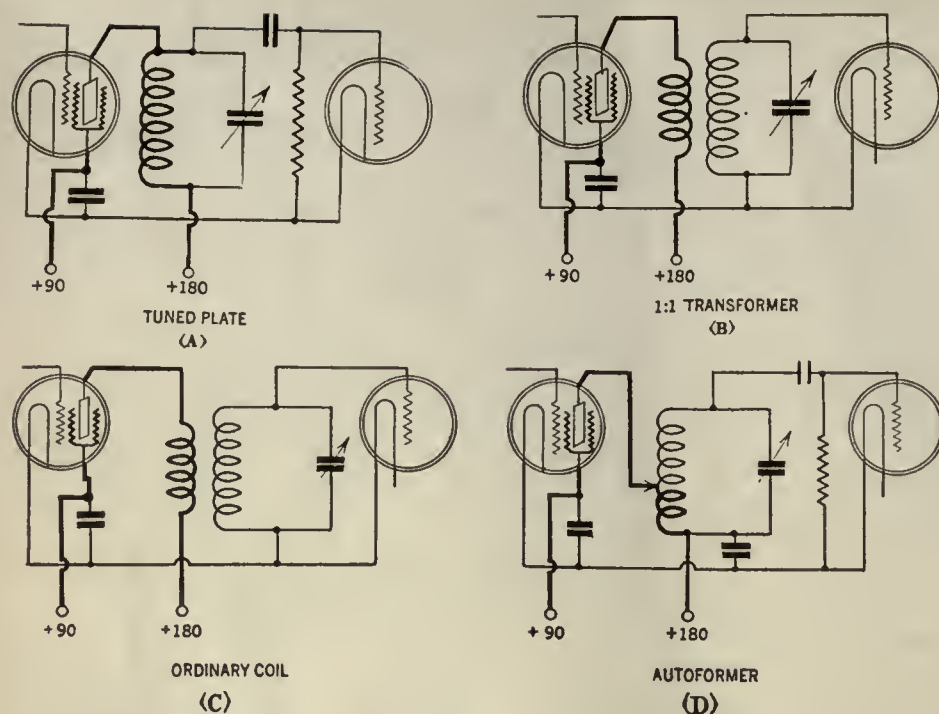
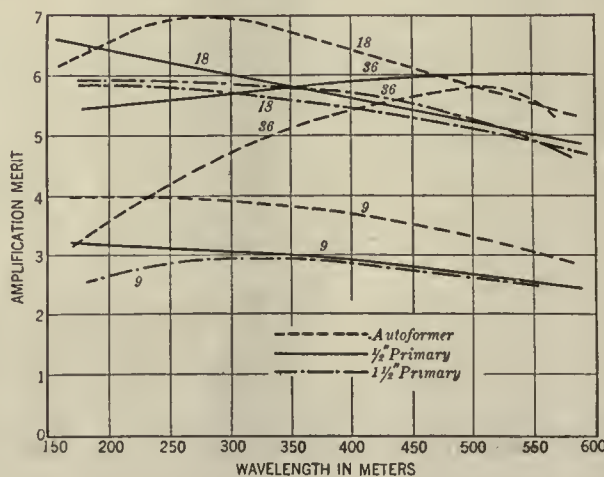

FIG. 2
FIG. 3
1. A tuned impedance, directly from plate and grid to ground. Fig. 2-A.
2. An auto transformer, in which a portion of the secondary is used as primary, the low potential ends being common. Fig. 2-D.
4. A primary wound to take up a length of $1\frac{1}{2}$ " inside the secondary. Fig. 2-B.
6. A primary wound to take up $\frac{1}{2}$ ", placed inside and opposite the low potential end of the secondary. Fig. 2-C.
IN FIG. 3 curves of amplification are shown on three windings in types 2, 4 and 6, and will be discussed at more length later. Type 1, illustrated in Fig. 2-A, generally advocated for use with the screen-grid tube, showed no greater amplification than several other types, and was pronouncedly poor in selectivity. Type 3 gave beautifully flat curves, but the amplification was low, as only a portion of the built up voltage was impressed across the grid and filament of the following tube, and the selectivity was rather poor. Types 7 and 8 appeared desirable from some angles for particular purposes, but in general were not considered as useful as the standard types. Due probably to the large distributed capacity of this type of winding, decided resonance peaks were obtained which varied in their amplitude with the degree of coupling and number of turns used. When a coupling was adjusted to the optimum degree where only three peaks were observed in the broadcast spectrum and a merit figure of $4\frac{1}{2}$ to $5\frac{1}{2}$ was obtained, the selectivity was very poor, and when either coupling or self-inductance was so adjusted as to allow appreciable selectivity, variations in amplification as high as 50 per cent. were unavoidable. It seems therefore evident that this type of winding is not as a rule desirable. Type 10 gave extremely good results, but was impractical for use in receivers because each stage would require three controls, two for tuning and one for coupling, each of which required adjustment for every frequency change.
Types 4 and 6 are very commonly used, and hence we have selected them for detailed presentation in connection with type 2, which was finally adopted as best. Type 4, illustrated in Fig. 2-B and generally advocated for use with the screen-grid tube when the tuned impedance arrangement is not employed, is shown on the chart of Fig. 3 in dot-dash lines, and it will be noted that after the number of turns increases to a certain point, no further increase in amplification is obtained, and hence the 1:1 ratio which has been recommended is not only unnecessary, but undesirable, since the selectivity, poor at all times with this type of construction, is very bad when more than eighteen turns are used.
a considerably improved selectivity factor. It will be noted in Fig. 3 that a variation in the number of turns results in a change of the point where maximum amplification is secured, and hence in a multistage cascade amplifier where selectivity in one or two stages may be sacrificed, comparatively uniform amplification can be secured over the whole band by adjusting the number of turns in the primary of each transformer.
Results obtained from type 2, illustrated in Fig. 2-D, are of extreme interest. In this type of coil a varying portion of the secondary acts as primary, with the primary and secondary currents in this portion of the coil in quadrature. The inductive coupling for the same number of turns in the primary is much greater in this type of coil, hence a comparatively high plate circuit impedance is built up with a relatively small number of turns, with consequent greater overall amplification. It will be noted in Fig. 3 that when many turns are used as primary, the amplification on the shorter wavelengths is reduced, because the portion of the coil in which the currents are in quadrature is appreciable and hence the voltage at the grid of the following tube is lower. This can be put to good use in a multistage amplifier to secure substantially uniform amplification over the whole spectrum. The selectivity of this arrangement compares very favorably with all of the types tested, and is pronouncedly superior to both the more or less commonly used types directly compared.